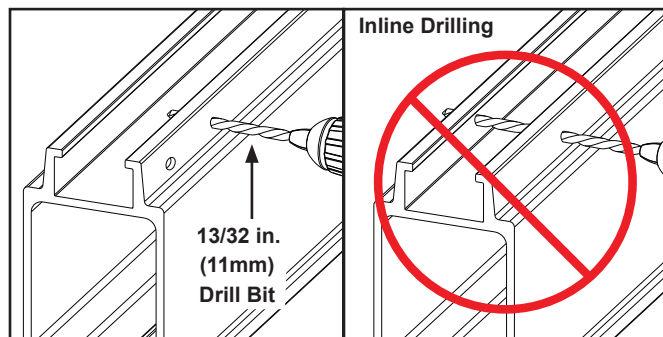

Figure 3-71
- Step 2. Drill two (2) holes using 13/32 in (11 mm) drill bit. Do not attempt to drill holes in-line. See Figure 3-71.